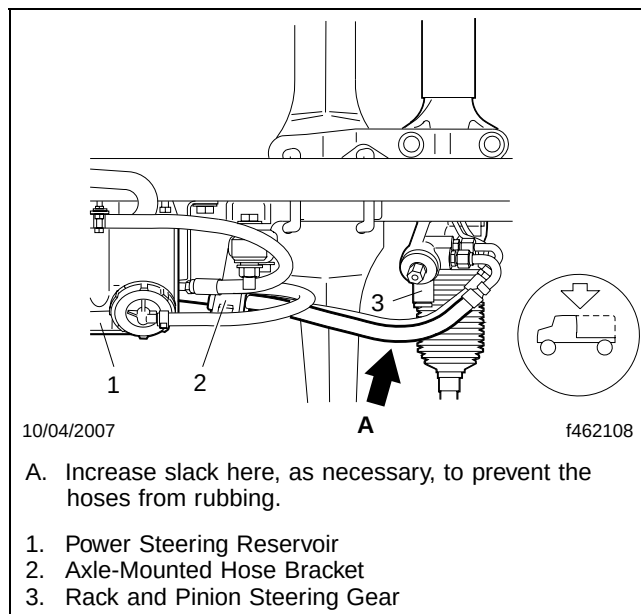
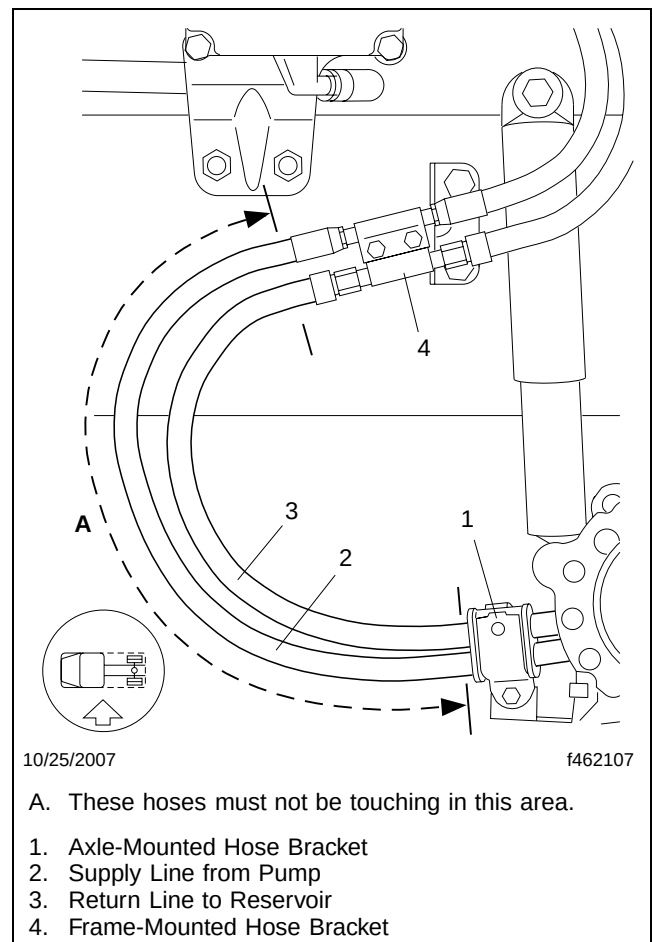

Fig. 9, View from Above
Fig. 10, Side View (fuel/water separator installed forward)
39. Include a little slack in the return line between the steering rack and the axle-mounted hose bracket (**Fig. 9**), to keep the hoses between the axle-mounted hose bracket and the frame bracket (**Fig. 10**) from rubbing together.